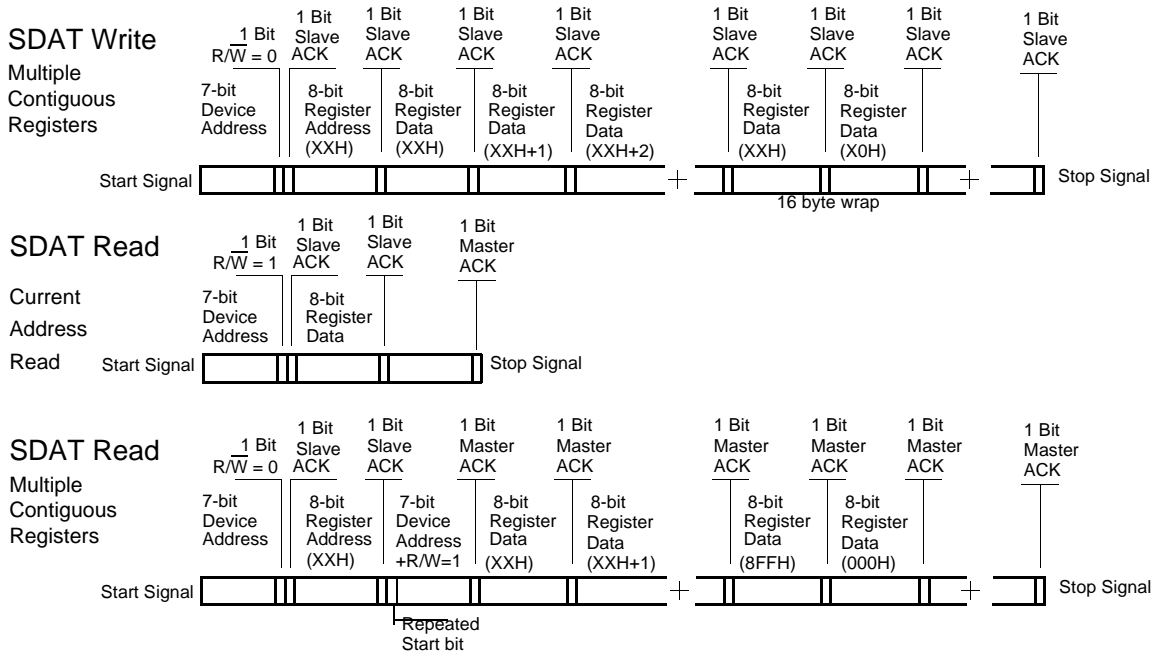

Figure 4. Data Frame Architecture
Start Bit; 7-bit Device Address (DA); R/\overline{W} Bit; Slave Clock Acknowledge (ACK); 8-bit Memory Address (MA); ACK; 8-bit Data; ACK; 8-bit Data in MA+1 if desired; ACK; 8-bit Data in MA+2; ACK; etc. until STOP Bit. The basic serial format is illustrated in *Figure 4*.